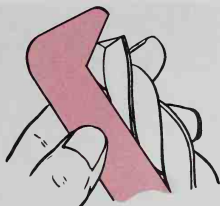

Fig. 4-47. Checking the point with a drill grinding gauge.
3. After you have practiced steps 1 and 2 a few times, turn on the grinder switch. Start grinding the drill, removing very little metal at first. Try to maintain the original shape of the point. Move the drill steadily and evenly, maintaining uniform pressure against the wheel as you grind. Check your work frequently with a drill-point gauge to be sure that you have the proper lip clearance of 12 deg., the proper lip angle of 59 deg., and that the two lips are the same length, Fig. 4-47. Do not allow the drill to overheat while sharpening. Drills can be cooled in water. Cool high-speed drills in the air otherwise they might crack.